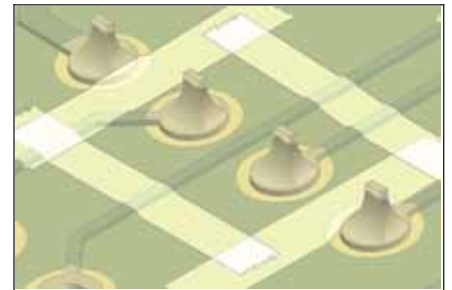

Figure 1 Apply polyimide tape if needed.
2. If needed, apply Polyimide tape to outline the area where the solder resist will be applied. (See Figure 1.)